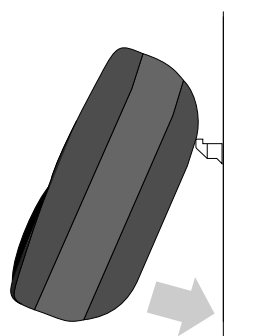

fig. 3
- Clip the fan heater onto the bracket, slanting it slightly (Fig. 3).